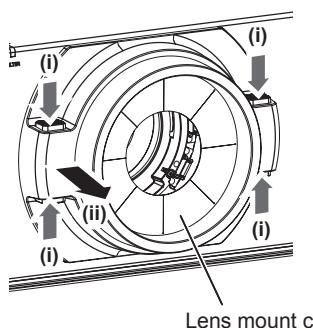

Fig. 1
1) Remove the lens mount cover. (Fig. 1)